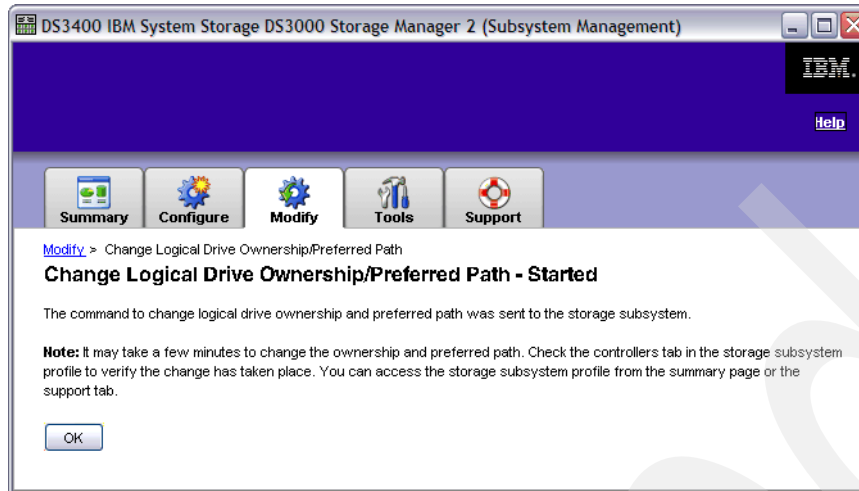

Figure 11-34 Change ownership - started
3. The command to change the logical drive ownership and preferred path is sent to the storage subsystem, as shown in Figure 11-34 on page 243. Click **OK**.